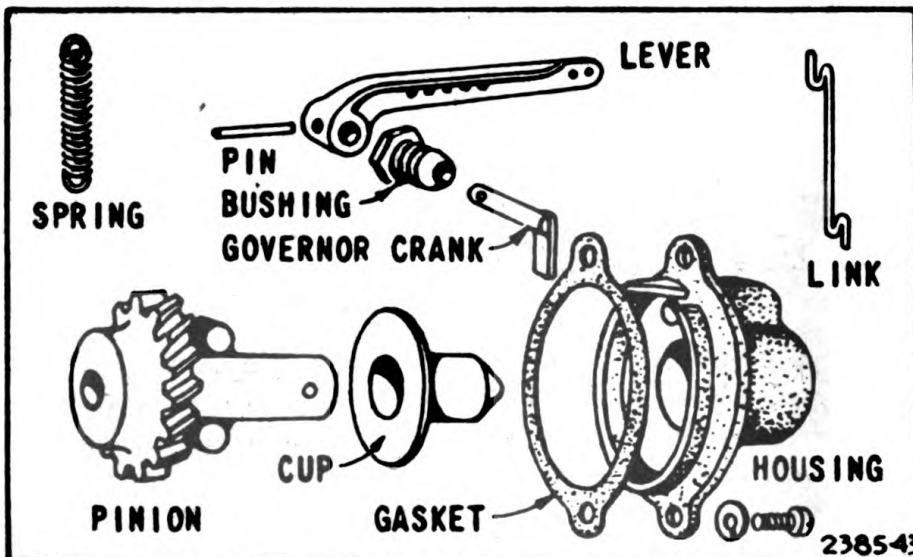
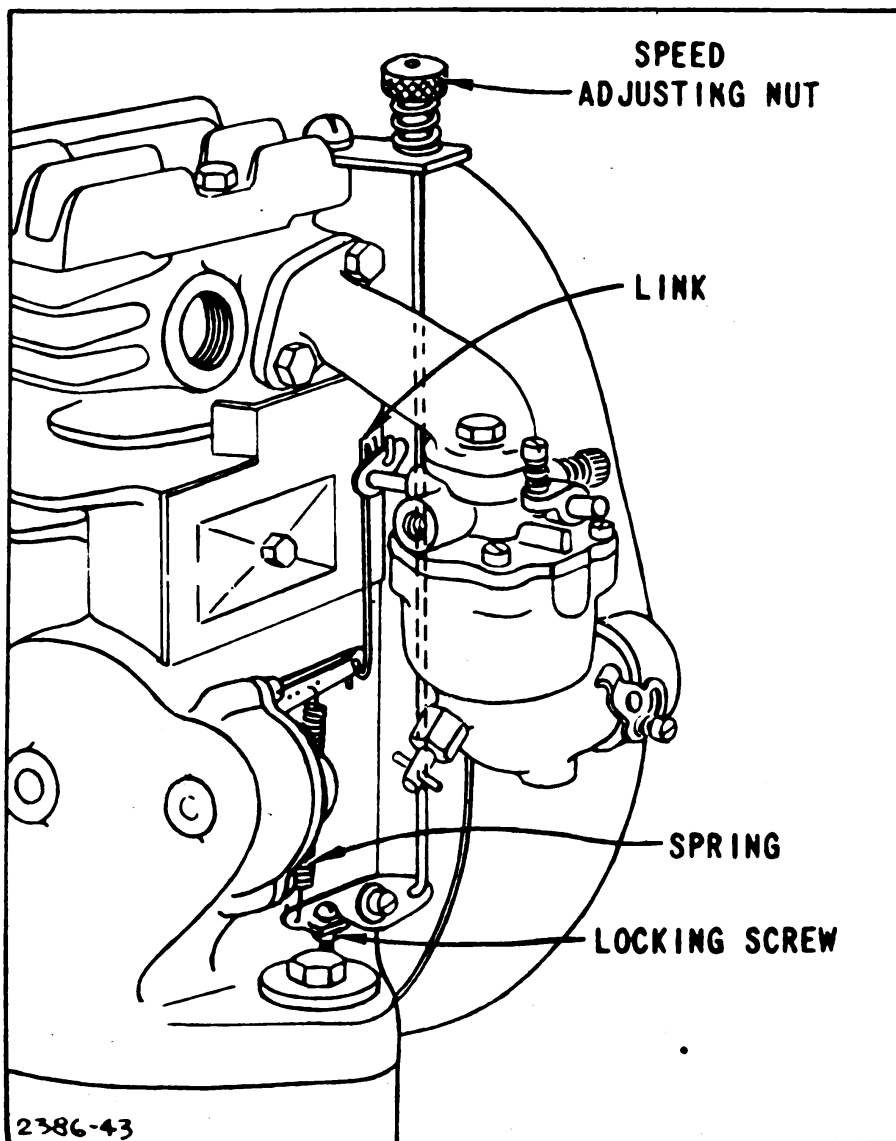

Figure 7.—Governor parts
Figure 8.—Carburetor and governor (mechanical) hook-up
gear (fig. 7). The cup is moved outward by action of the weights and in turn acts upon the crank and lever which are connected to the carburetor throttle. The governor lever is connected to the carburetor throttle by a link. Any movement of the governor weights, caused by a rise or drop in load affecting the engine speed, is immediately transmitted to the carburetor throttle, thereby increasing or decreasing the throttle valve opening. A spring for regulating and controlling action of the governor (fig. 8) is incorporated in the governor lever. This spring is adjustable by means of a thumbscrew, the speed-regulating nut. Recommended operating speed is 2,700 rpm at no load.
To adjust carburetor, completely close needle valve (figs. 8 and 9) by turning to the right or clockwise as far as possible. Do not screw valve
b. On PE-77-D and E a speed regulator is located on top of the cylinder above the carburetor (fig. 8). Turn the regulator to the right to increase speed and voltage; to the left to reduce engine speed and voltage. Adjust so that the voltage reads 115 volts at full load.
c. To inspect and clean governor parts (PE-77-D and PE-77-E):—(1) Remove carburetor by disconnecting fuel line and removing two screws at top and one at bottom.
(2) Unhook throttle link (fig. 7).
(3) Unhook spring.
(4) Remove two screws which fasten governor housing to crankcase and lift off housing.
(5) Remove cup and pinion
(6) Clean parts in Diesel oil or cleaning solvent (Federal Specification P-S-661A) and inspect them carefully.
(7) Replace worn parts with new ones and assemble with new lubricant.